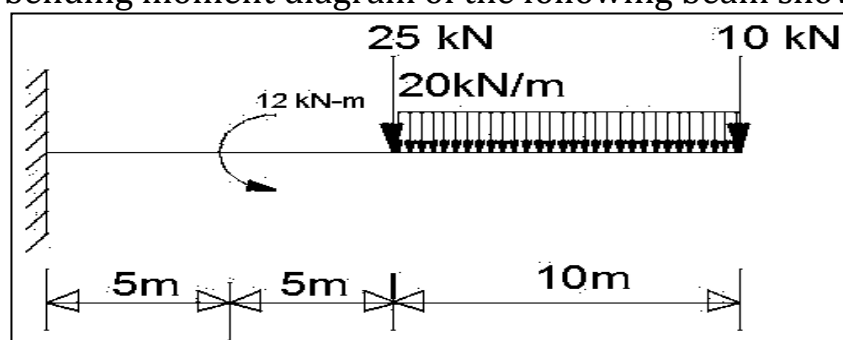

Fig. 5
- (b) Construct the shear force and bending moment diagram of the following beam shown in Fig. 5.